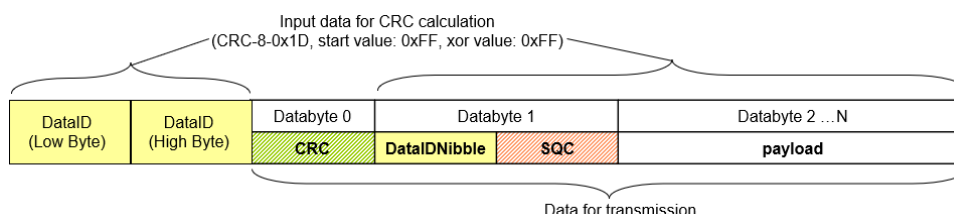

Figure 5.3. Layout of the protected message including control data (CRC, SEQ) with explicit transmission of data ID nibble (`dataIdMode=3`)
- ▶ **Explicit transmission of data ID nibble** E2E_P11_DATAID_NIBBLE (variant 11C, dataIdMode=3): Both bytes of the 16-bit data ID are attached to the safety data for CRC calculation, but the low nibble of the high byte of the data ID is explicitly transmitted. Only 12 bits are used in this 16-bit data ID, and the high nibble of the high byte is set to 0. The bit-offset of the data ID nibble value within a transmitted signal group is configurable, but must be aligned with respect to nibbles. To use this data ID inclusion mode together with the data ID inclusion mode **both bytes**, the CRC is calculated over the low byte of the data ID and the high byte, which is set to 0. For more information on explicit transmission of data ID nibbles, see [Figure 5.3, “Layout of the protected message including control data \(CRC, SEQ\) with explicit transmission of data ID nibble \(dataIdMode=3\)”](#). The constraints specified in ASR_-E2EP11020541 must be adhered to.
Figure 5.3, “Layout of the protected message including control data (CRC, SEQ) with explicit transmission of data ID nibble (`dataIdMode=3`)” shows the layout of the AUTOSAR E2E Profile 11 with a CRC offset of 0 bits and a sequence counter/alive counter offset of 8 bits and a data ID nibble offset of 12 bits as used for `dataIdMode=3`.